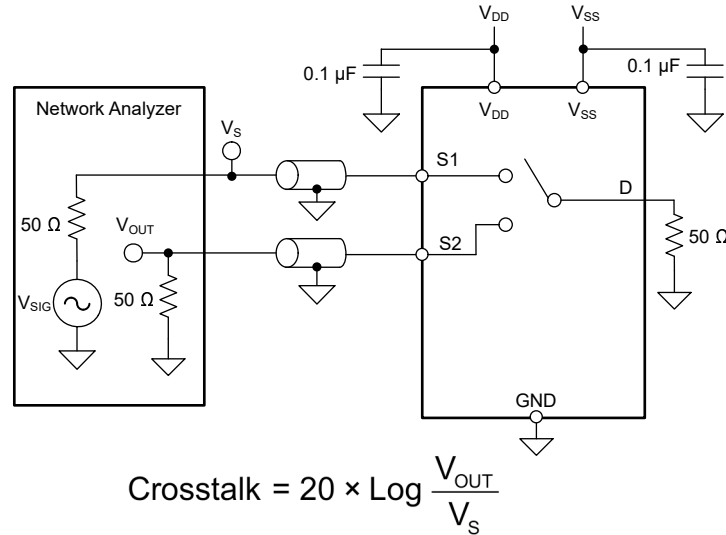

Figure 6-11. Crosstalk Measurement Setup
Crosstalk is defined as the ratio of the signal at the drain pin (D) of a different channel, when a signal is applied at the source pin (Sx) of an on-channel. Figure 6-11 shows the setup used to measure, and the equation used to calculate crosstalk.